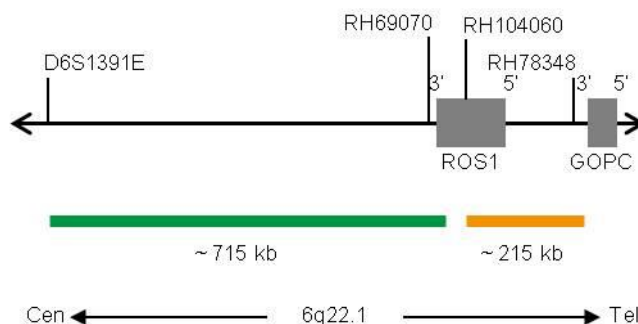

Fig. 1: ROS1 Probe map (not to scale)
- ZyGreen (excitation 503 nm/emission 528 nm) labeled polynucleotides (~6.0 ng/μl), which target sequences mapping in 6q22.1\* (chr6:116,912,298-117,627,255) proximal to the ROS1 breakpoint region (see Fig. 1).
- ZyOrange (excitation 547 nm/emission 572 nm) labeled polynucleotides (~2.5 ng/μl), which target sequences mapping in 6q22.1\* (chr6:117,659,135-117,871,701) distal to the ROS1 breakpoint region (see Fig. 1).